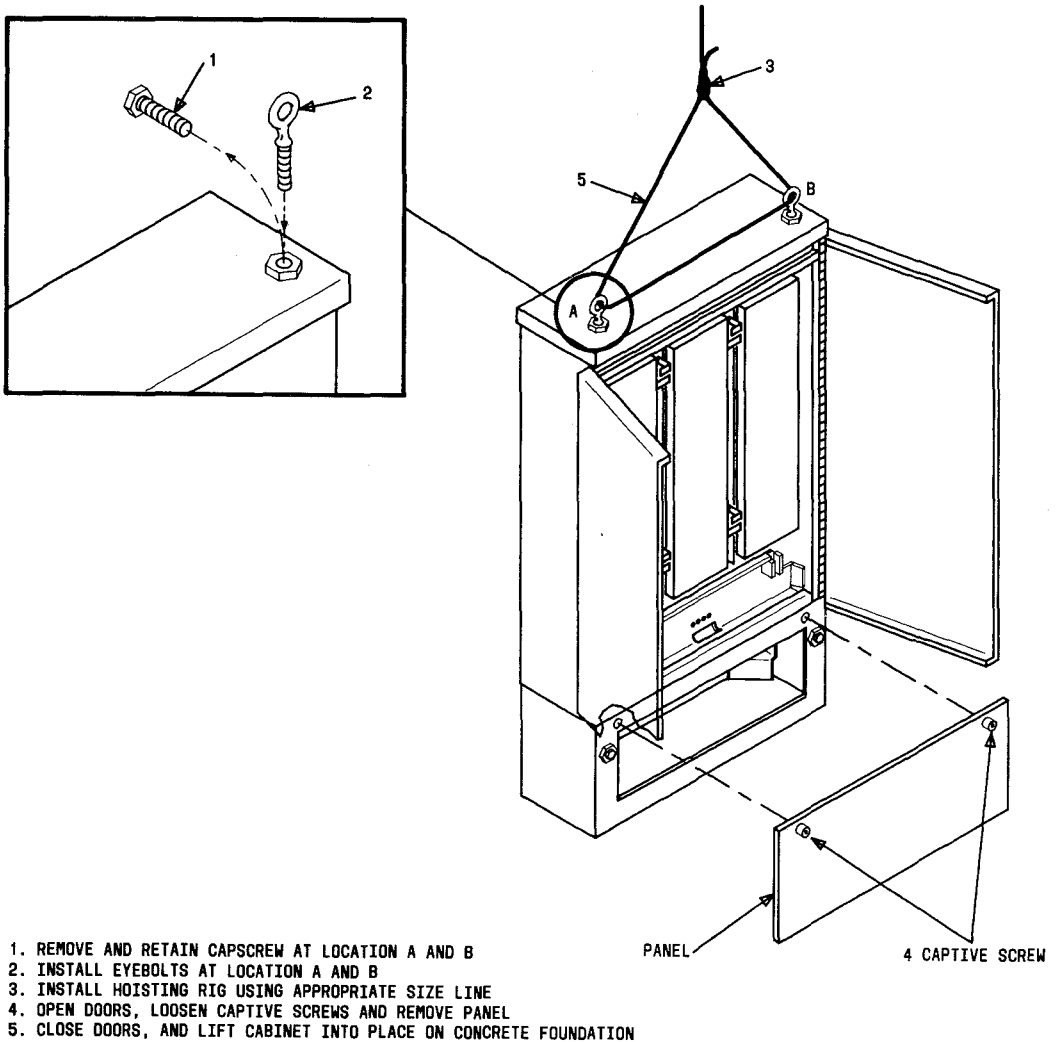

Fig. 6—Lifting 40-Type Cabinet for Placing on Foundation
4.05 Figures 6 and 7 illustrate procedures for placing 40-type cabinets on concrete foundation at locations where cabinets are to be equipped with prewired connecting devices.